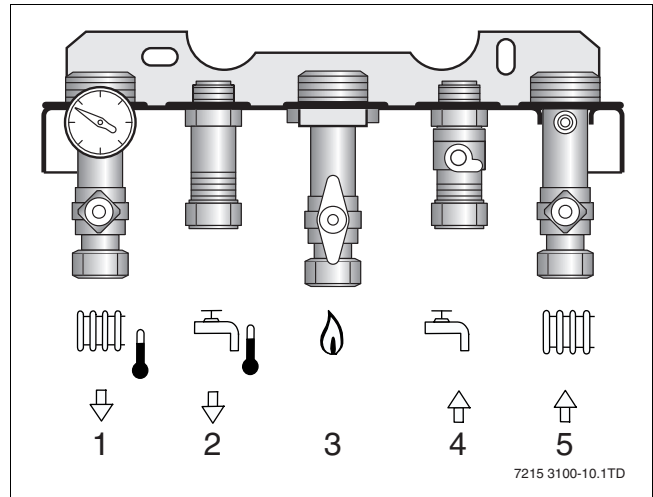

Fig. 10 Pipe connections
- Connect pipes as shown in fig. 10. Ensure that all pipework is routed so as to minimise any strain on the boiler fittings.